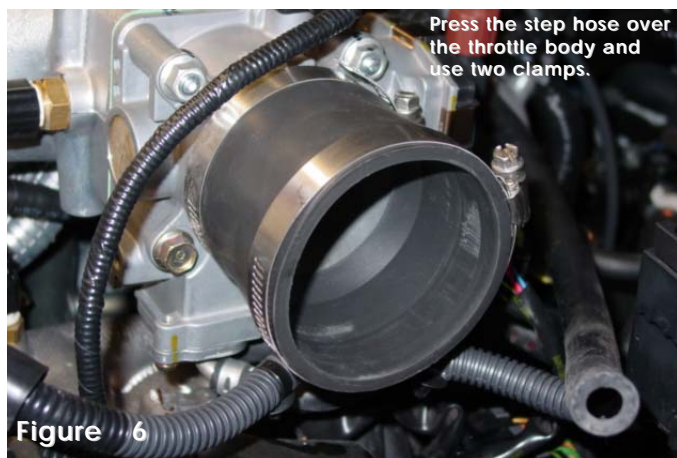

Figure 6
5. Take the molded step hose and press the 2 3/4" end over the throttle body. Use two clamps on the step hose but tighten the clamp on the throttle body at this point. (See fig. 6)